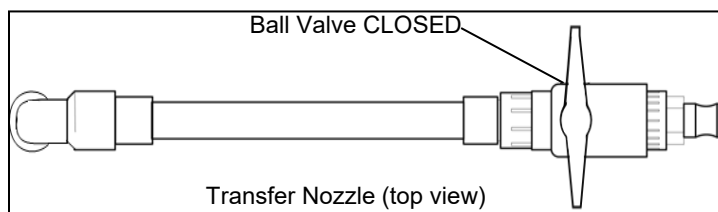

Figure 8
3. Hold the Transfer Nozzle and make sure the Ball Valve on the Transfer Nozzle is CLOSED (Figure 8).